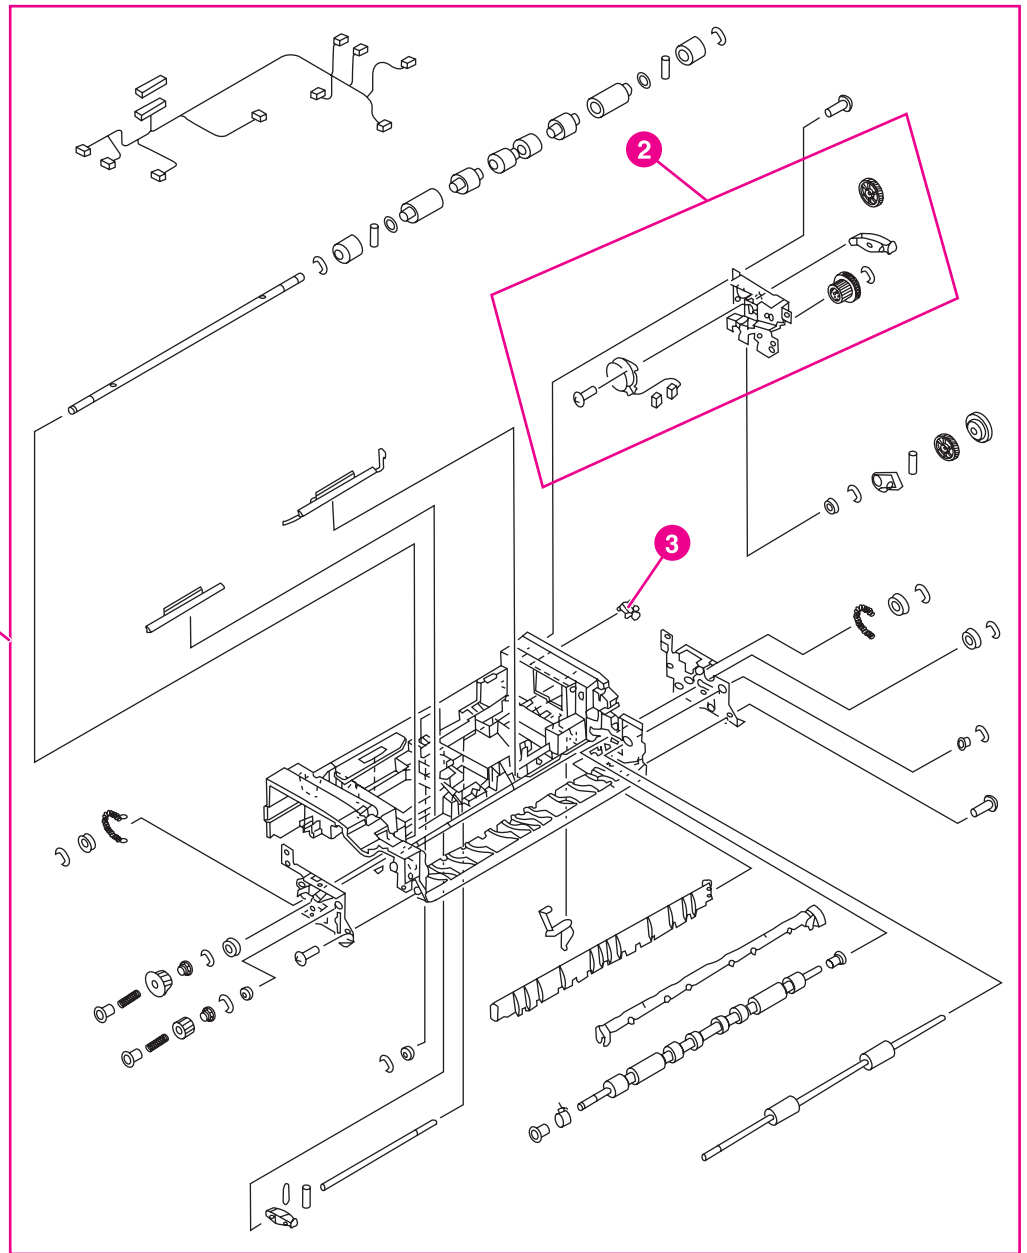
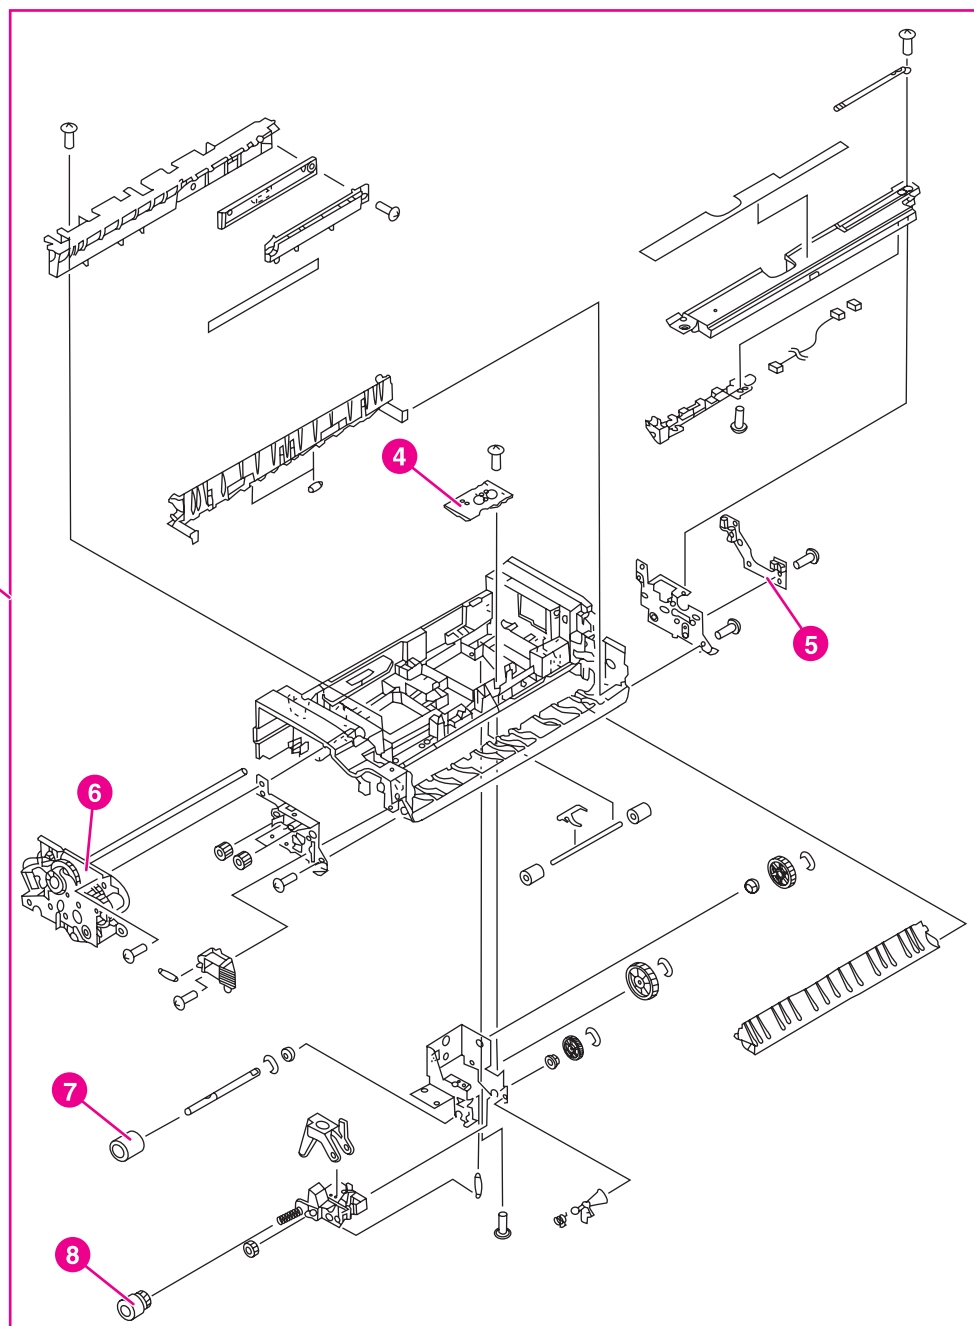

Figure 8-20. Paper pickup assembly (1 of 2)
Figure 8-21. Paper pickup assembly (2 of 2)
Table 8-20. Paper pickup assembly (1 of 2) lists parts shown in Figure 8-20. Paper pickup assembly (1 of 2) and Figure 8-21. Paper pickup assembly (2 of 2). If you order a replacement paper pickup unit (item 1), you will receive all parts shown in both figures.